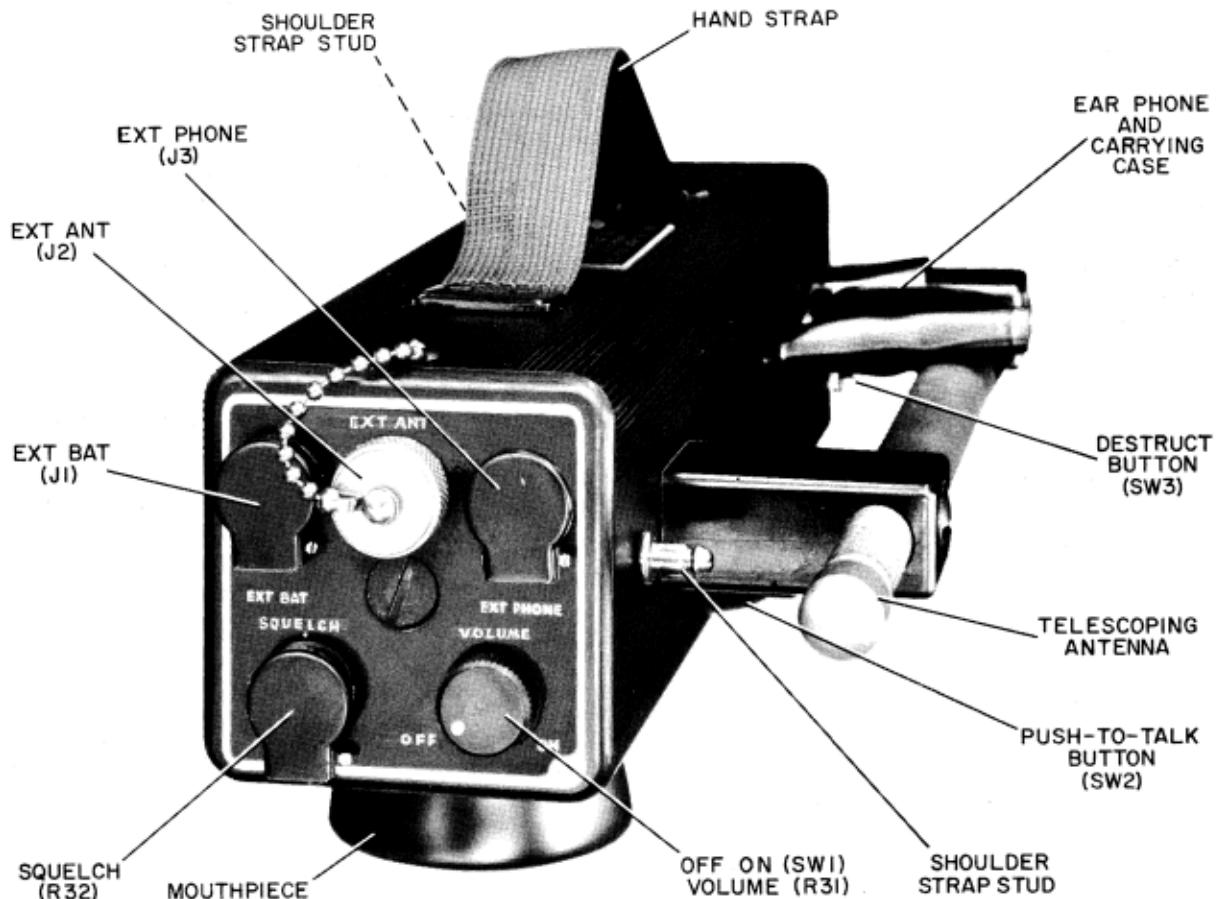

Figure 6. Model HT-1A, Location of Operating Controls and External Connection Points
f. Refer to figure 6 and place the ON-OFF switch SW1 in the OFF position.
15. Table V lists the reference designation, item name or marking, and the function of controls on the Model HT-1A Transceiver. Figure 6 shows their locations.
b. Place the eight position selector switch on the Test Set in the number one position (Battery Voltage). Refer to figure 6 and place the ON-OFF VOLUME Control SW1 in the ON position, and observe meter for proper indication of battery voltage (green target area).
a. Connect an RF wattmeter or suitable dummy load with power measuring facilities to the EXT ANT receptacle J2 at top of case (figure 6).